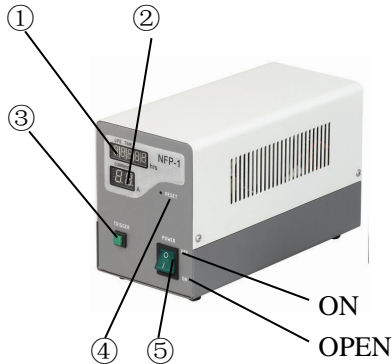

Fig.31
4-4 Adjustment of Power Supply Unit (Fig.31)
- Some mercury burners may not ignite the first time the power is turned on due to variance in production. If this occurs, set the main switch to “1” (ON) , then press the trigger button ③ on the front panel of the power supply and between 1 to 4 seconds are required for igniting the burner. Repeat this if necessary.
- Ensure that the hour counter is reset to “000.00” after replacement of the burner. And you can insert a thin isolator into the hole of the reset switch (fig.31 ④) on the front panel of the power supply unit to press the internal switch.
4-4-2 Controls on Power Supply Unit (fig.31)